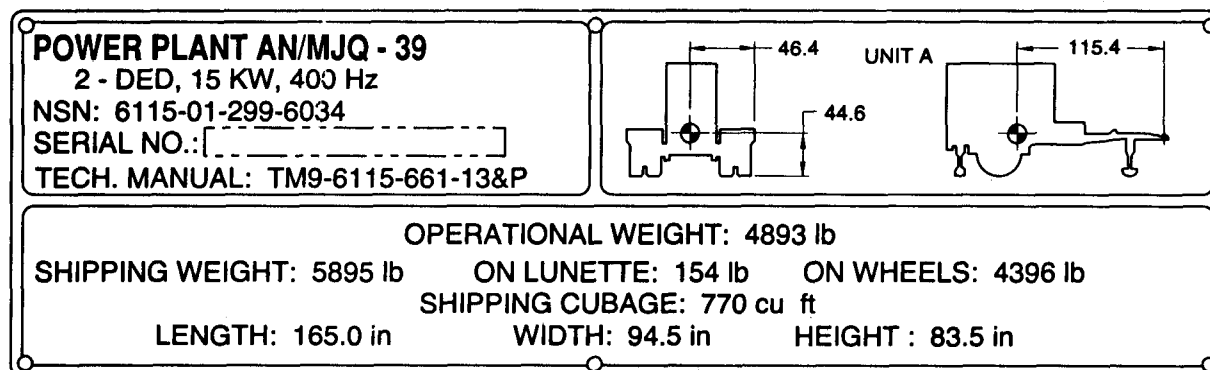
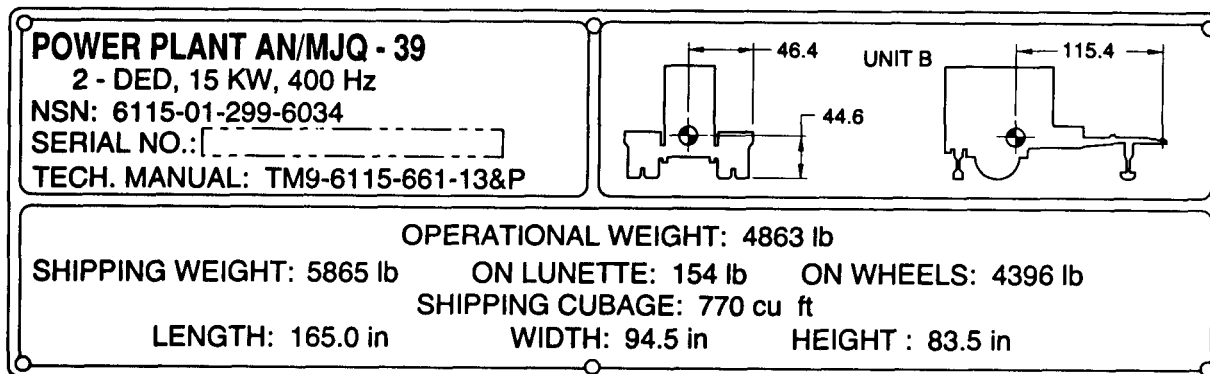

Figure 2-15. AN/MJQ-39 Unit A identification/Transportation Data Plates.
Figure 2-16. AN/MJQ-39 Unit B identification/Transportation Data Plates.
**2-6.4 AN/MJQ-39 Identification/Transportation Data Plate.** See figure 2-15 and figure 2-16. This plate is located on the trailer body.